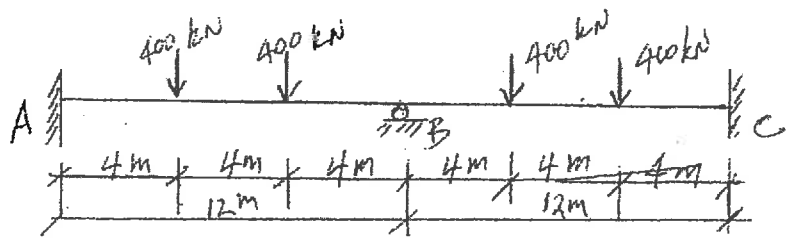

FIGURE 1
1. The ends A and C of the continuous welded steel-plate girder, Figure 1 are rigidly embedded into rock. Using a stiffened web design, choose a suitable cross-section to satisfy: